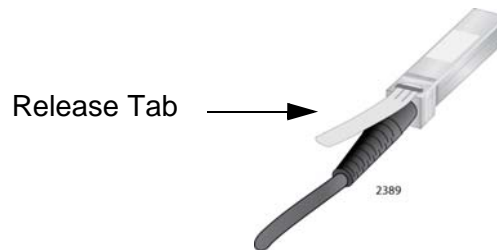

Figure 105. Release Tab on the AT-SBx31XS6 Line Card
2. Orient the connector on the AT-SP10TW cable so that the release tab is on top, as shown in Figure 105.